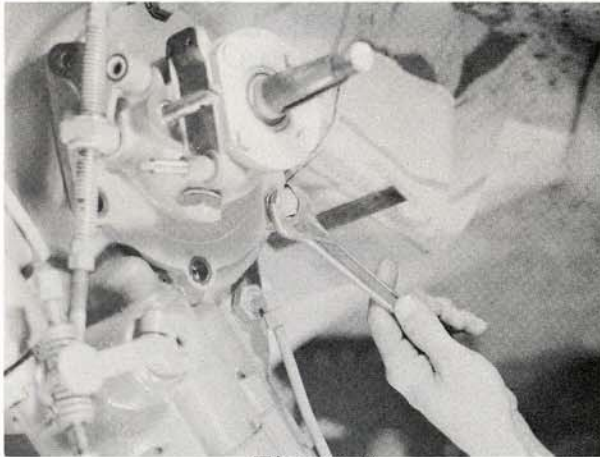

Figure 7
a. Remove Part Number 6728 Axle Housing and assembled parts from the chassis. This includes all the parts attached to or pressed into the Axle Housing and the Shifting Jaw Clutch. See Figure 7. It is not necessary to remove the differential itself--see Figure 13.
a. Check to see if the Clutch Sliding Pin Part Number 6721 will slide in and out of the Axle Housing (Part Number 6728) with parts removed. . . see Figures 7 and 8. If the pin tends to bind it may be because